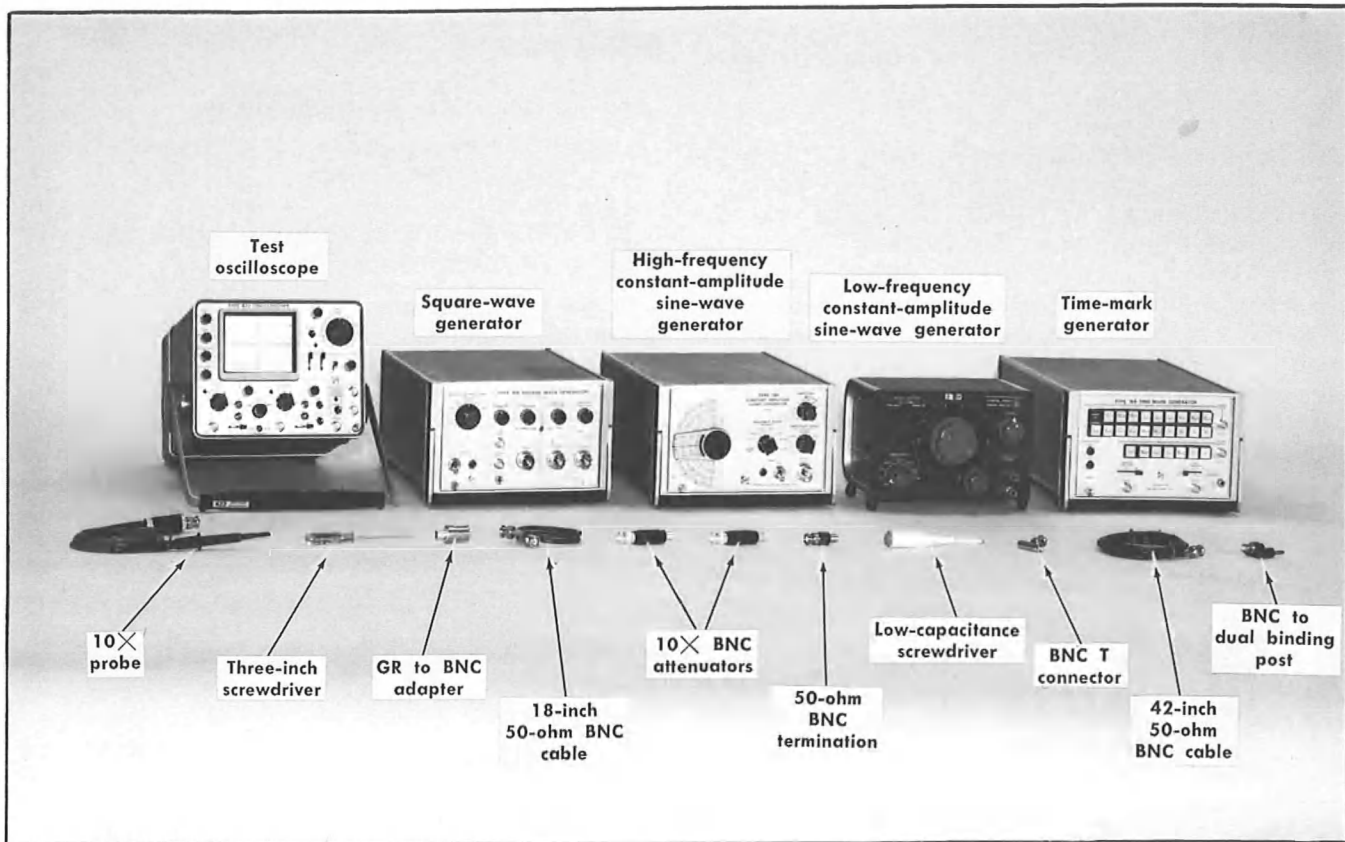

Fig. 5-19. Test equipment required for steps 33 through 53.
a. Test equipment required for steps 33 through 53 is shown in Fig. 5-19.